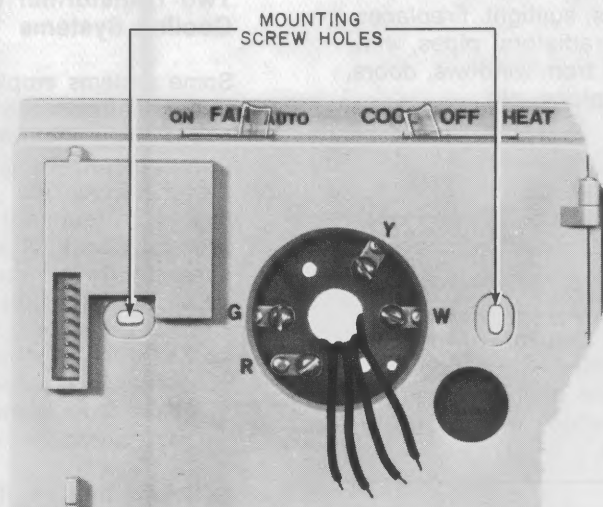

Fig. 4 — Interior view of mounting subbase. Note mounting screw holes and wiring opening.
7. Insert all the wires through the wiring access hole in the back of the T53. Mount the T53 to the wall using the mounting holes and screws provided. (See Fig. 4.)